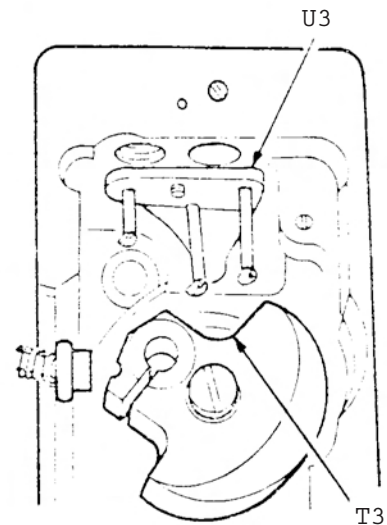

Fig. 30
10. Turn the needle bar crank until it is in the position shown at T3, Fig. 30, to prevent crank from disturbing the three wick loops in holder U3, Fig. 30 during removal of arm shaft.
2. Make certain that the needle bar crank is turned to the position shown in Fig. 30, clearing the three wick loops in holder U3.